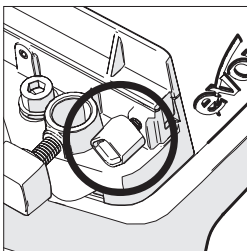

Fig. 5
- Loosen the thumbscrew (**Fig. 5**).